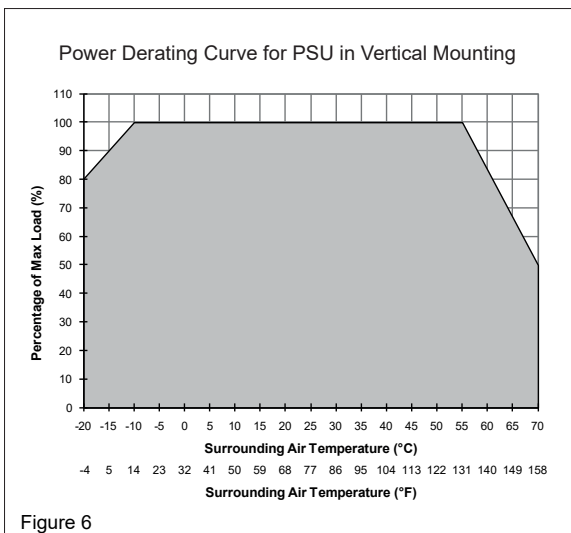

Figure 6
5.4. Thermal behavior (Fig. 6)